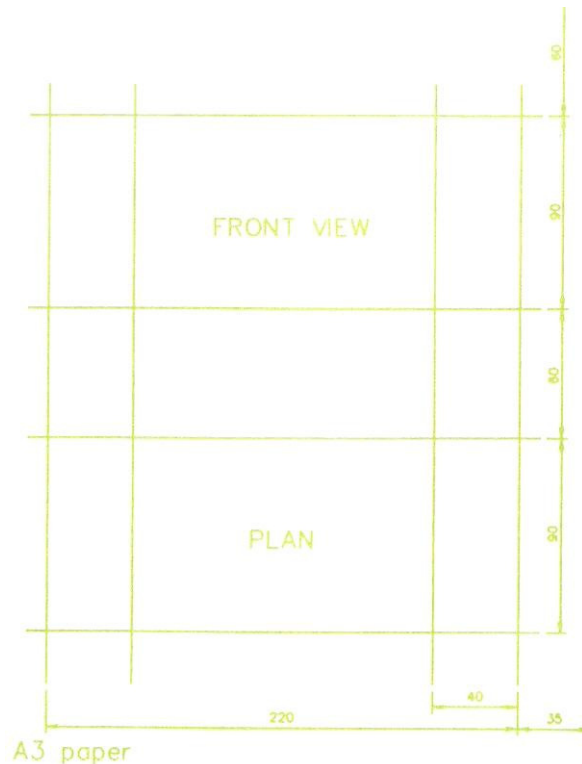

Figure 10 - Stage 1
### Stage 1 – Figure 10
- Figure 10 shows the construction lines based on the above arithmetic.